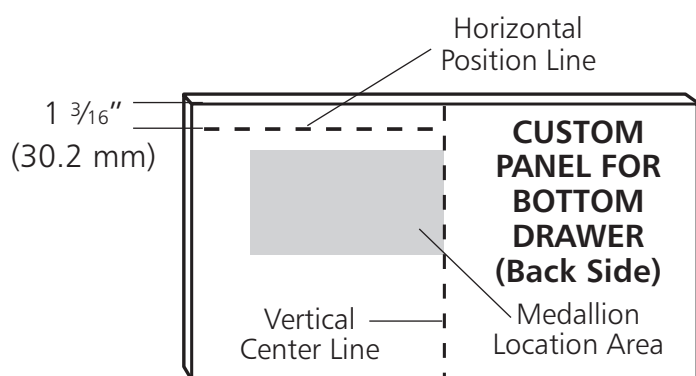

FIGURE 3B
- 11) On the backside of the bottom drawer custom door panel, measure and mark the vertical center line and horizontal position line (See figure 3B).